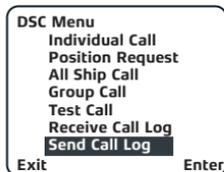

Figure 27
2. Rotate the multi-function knob to select **Send Call Log** and press **Enter** (fig 27).